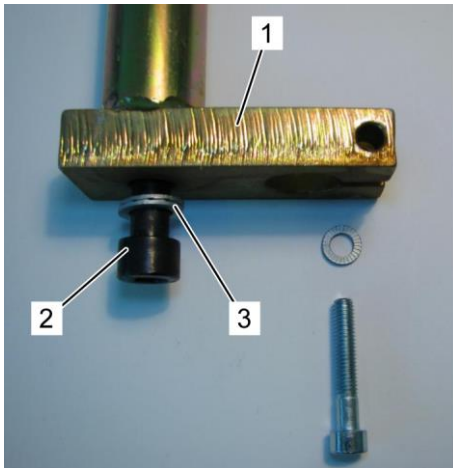

Fig. 28: Tube type sensor bracket
1. Attach two Nord-Lock® discs (Fig. 28/3) on the bolt M10 or M12 (Fig. 28/2).